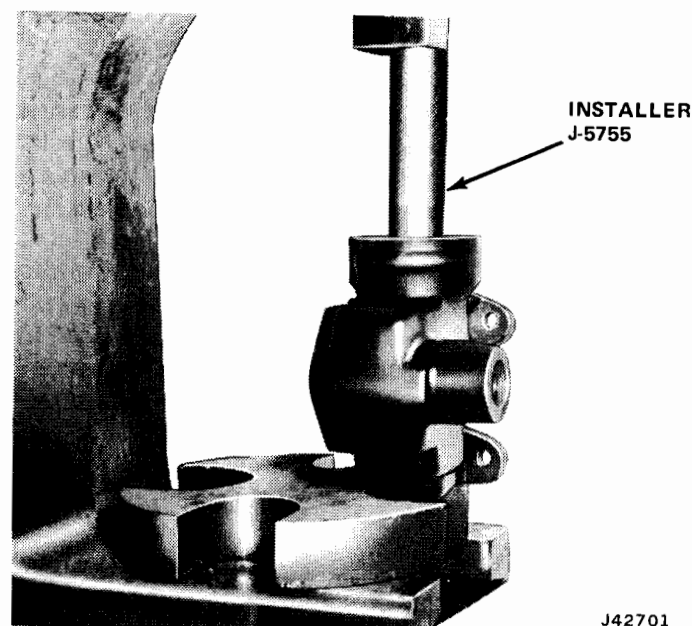

Fig. 11-57 Pressing in Bearing Cup
(4) Install clamp over two ball guides and install attaching bolts and washers.
(5) Rotate worm through complete travel several times to be sure balls are installed correctly and rotate freely. Do not allow ball nut to bottom at end of worm travel; this could damage ball return guides.
(6) If bearing cups were removed from worm adjuster or housing, press in new bearing cup, using Wormshaft Bearing Cup Installer J-5755 (fig. 11-57).
(7) Install upper worm bearing on upper part of wormshaft and center ball nut on worm.
(8) Install assembly in housing with bearing seated in bearing cup.
(9) If bearing was removed from worm adjuster, install a new bearing and retainer in worm adjuster.
(10) Install adjuster in bottom of housing. Seat wormshaft in lower bearing in adjuster.
(11) Install bearing adjuster locknut, but do not tighten. Turn wormshaft until center tooth space of ball nut is centered in opening for side cover. Install correct shim, and lash adjuster screw in T-slot of pitman shaft.
(12) Install pitman shaft in housing, meshing center tooth of sector gear on shaft with center tooth space of ball nut.
(13) Install gasket and side cover on housing; turn lash adjuster screw in threaded opening of side cover but do not tighten.
(14) Install side cover attaching bolts and lockwashers. Tighten bolts to 30 foot-pounds torque. Install nut on lash adjuster screw hand-tight.
(15) If pitman shaft oil seal was removed, use Pitman Shaft Oil Seal Protector J-5787 and Pitman Shaft Oil Seal Installer J-7171 to install oil seal in housing over pitman shaft threads and splines.
(16) If wormshaft oil seal was removed, use Wormshaft Upper Oil Seal Installer J-7017 to install oil seal in housing.